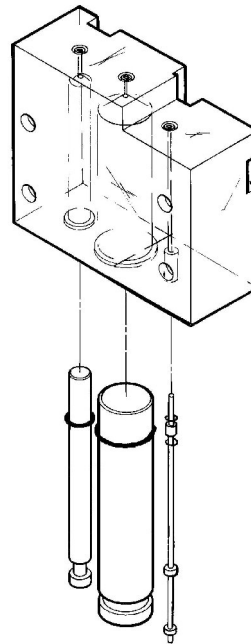

Fig.15: Pistons
- ◆ Pull out the pistons 1, 2 and 3 from the body with their respective O'ring still around (See "Fig.15: Pistons, page 10").